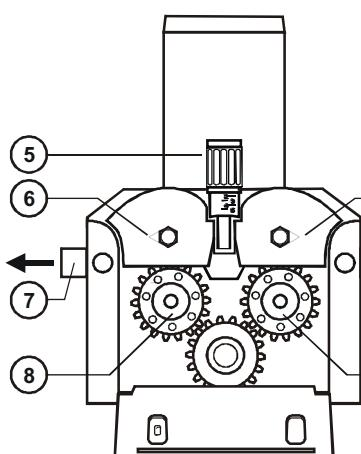
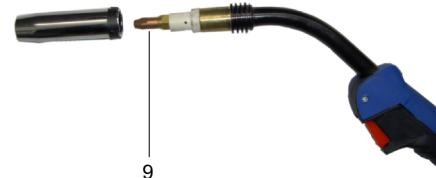

Fig.8 - 50W 4 roll motor
Fig.10 – Torch tip
- The wire feeder rolls (8-fig.8&9) and the tip of the torch (9-fig.10) must correspond to the wire diameter.
- The wire must be manually conducted a few centimetres through the rolls (8-fig.8&9) and the wire guide (7-fig.8&9). After this, close the traction levers (6-fig.8&9) verifying that the correct positioning of the wire on the roll rend.
- Switch on the machine and press "wire inch" key button until the wire appears outside the torch tip (9-fig.10). If necessary, unscrew the tip torch and straight torch cable.